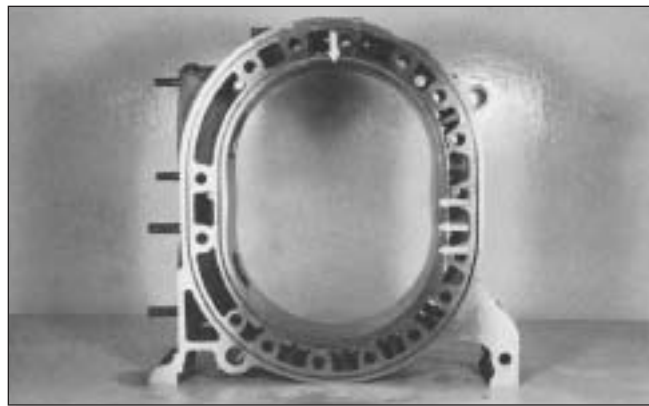

Figure 1
- b. Measuring rotor housing width requires a 50-75 mm micrometer for 12A engines or a 75-100 mm micrometer for 13B engines. Measurements should be taken in four (4) places around the housing (see Figure 1). Choose one point at the top of the housing and three (3) other points on the spark plug side. Each of the three (3) measurements should be approximately 3/4" from the other.